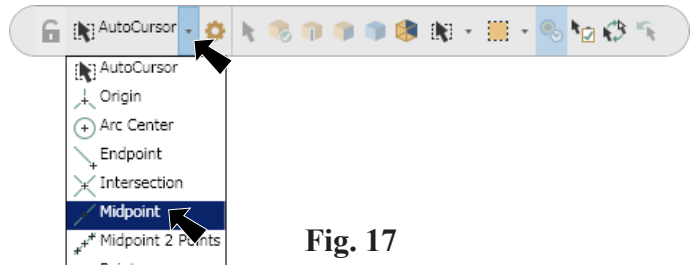

Fig. 17
- Step 3. Click the down arrow of AutoCursor toolbar and select **Midpoint** from menu, Fig. 17.